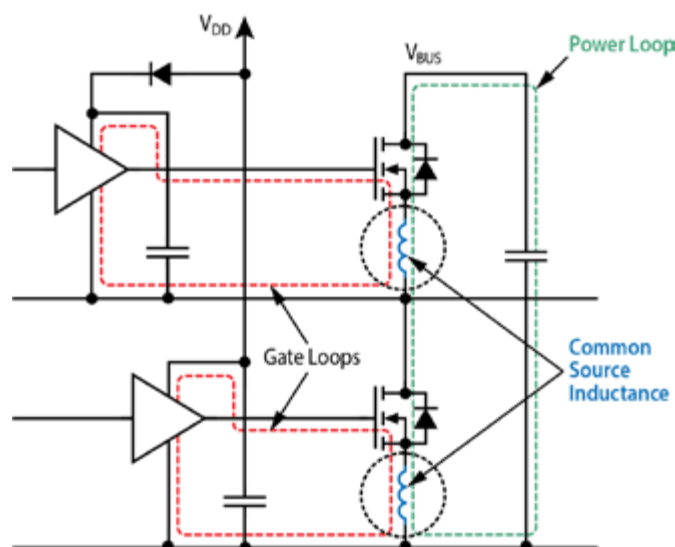

Figure 1: Schematic of a half-bridge power stage showing power and gate drive loops with common source inductance shown in dotted circles
The use of GaN at higher frequencies than the aging power MOSFET is capable has put a spotlight on the degrading effects of parasitic inductance in a power conversion circuit [1]. This inductance hinders the extraction of the full benefit of GaN's extra-fast switching capabilities with reduced EMI generation. For a half-bridge configuration, which is used in about 80% of power converters, the two main sources of parasitic inductance are: (1) the high-frequency power loop formed by the two power switching devices along with the high-frequency bus capacitor and, (2) the gate drive loop formed by the gate driver, power device, and high-frequency gate drive capacitor. The common source inductance (CSI) is defined by the part of the loop inductance that is common to both the gate loop and power loop. It is indicated by the arrows in Figure 1.